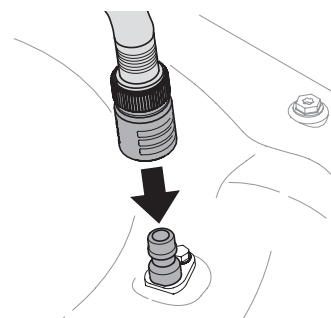

Figure 13
3. Attach garden hose with the deck wash nozzle to the water port on your deck's surface. See Figure 13.